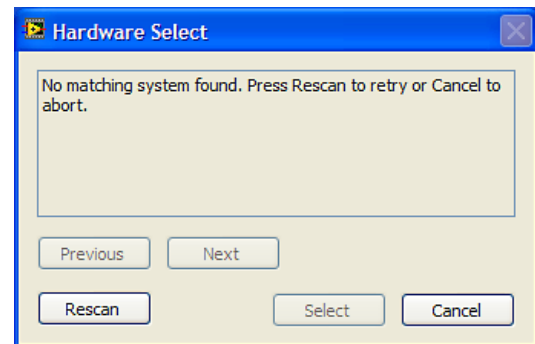

Figure 2. Connectivity Error Alert
2. If the evaluation system is not connected to the USB port when the software is launched, a connectivity error is displayed (see Figure 2). Connect the evaluation board to the USB port of the PC, wait a number of seconds, and click **Rescan**. Follow the instructions.